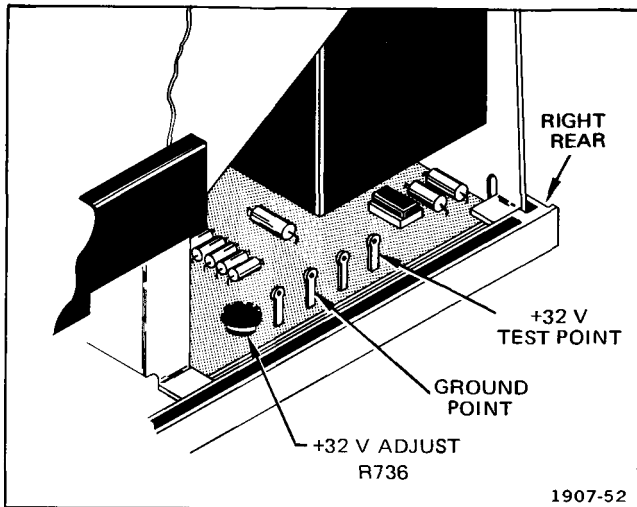

Fig. 6-1. +32 volt adjustment location.
a. Connect digital voltmeter between +32 V test point and the ground test point (see Fig. 6-1). If meter reads between +31.94 and +32.06 V, skip step b.
b. ADJUST—+32 V Adjust, R736, for +32 V. Refer to Fig. 6-1.